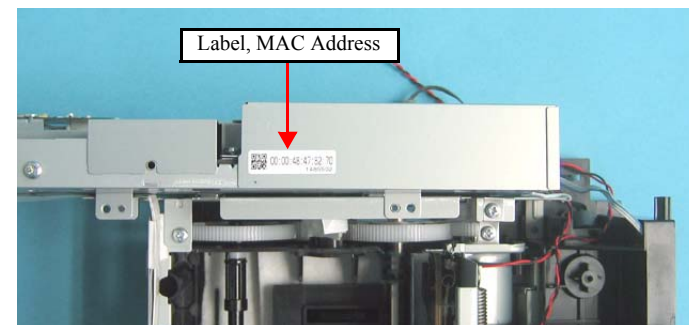

Figure 4-29. Position to attach the MAC Address Label
- If the EEPROM data cannot be read out from the old Main Board when replacing the Main Board, the MAC Address is required to be set. In this case, attach the new label “Label, MAC Address (Parts code: 1489500)” on the position as shown in Figure 4-29 and execute the “5.2.8 MAC Address Setting \(p161\).”